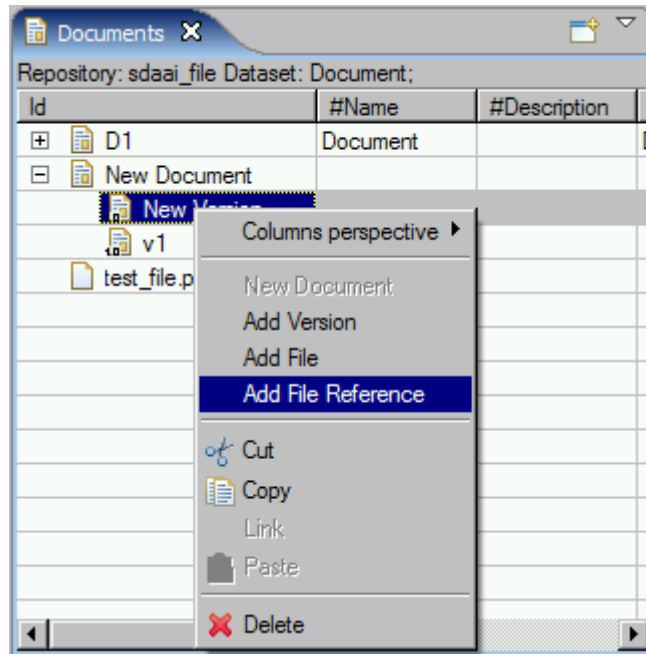

Figure 1. Add File Reference menu item
- Select the **Add File Reference** menu item in the appeared context sensitive menu (see Figure 1).